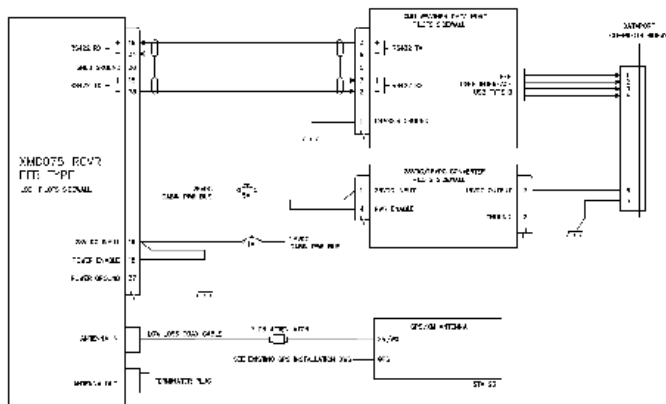

FIGURE 2 - SYSTEM BLOCK DIAGRAM
- » The following electrical changes are made for configuration 1. See block diagram Figure 2.